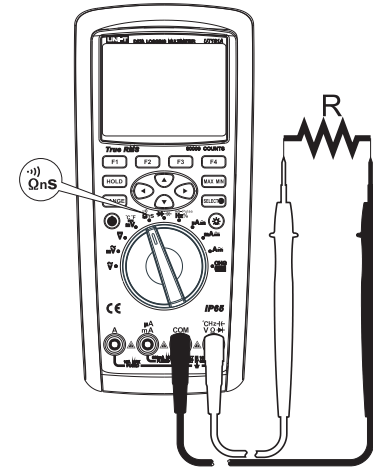

Figure 8
- 2) Set the rotary switch to the measurement  $\Omega$  nS  $\rightarrow$ ), and current  $\Omega$  is the default resistance measurement as shown in Figure 8. Connect the test leads to both ends of the measured resistance.
- 2) Set the rotary switch to the measurement  $\Omega_{ns}$ , press the key SELECT to select conductance measurement 60nS. Connect the test leads to both ends of the measured resistance as shown in Figure 8.
- 2) Set the rotary switch to the measurement  $\Omega$  nS, press the key SELECT to select the continuity test. Connect the test leads to both ends of the measured resistance as shown in Figure 8. Press the function key MENU (Menu) to enter the menu items. If pressing the key SHORT (Menu), then the buzzer selects